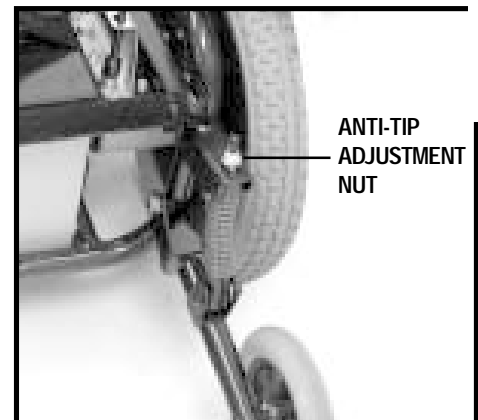

Figure 22. Anti-tip Adjustment
6. Locate the adjustment nut at the top of the anti-tip bracket. See figure 22.